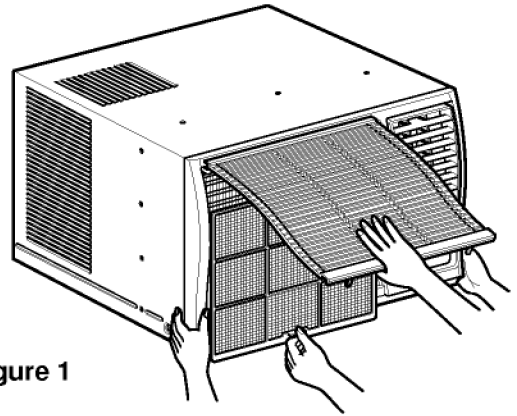

Figure 1
5. Re-install the components by referring to the above removal procedure. (See figure 1)